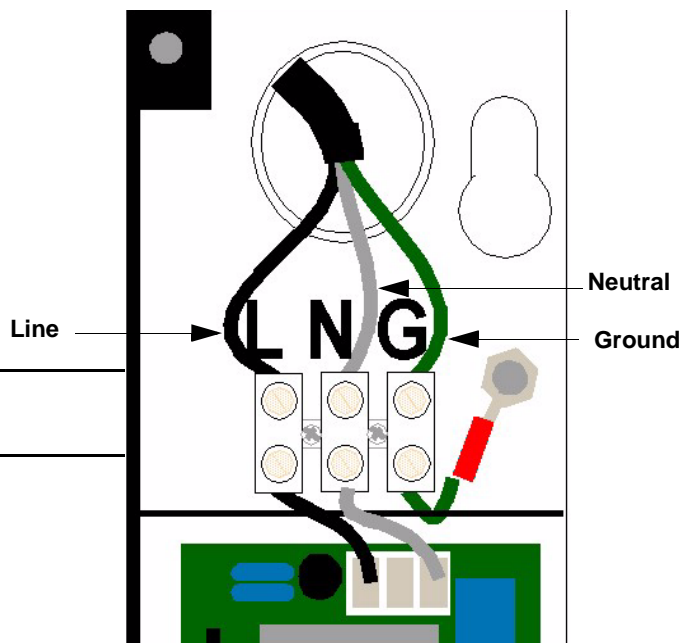

Figure 4: Power Supply Installation
- 4 Install the appropriate wires into the AC terminal block, as shown in Figure 4, tighten the screws to 5 - 7 in-lbs., and replace power supply cover.